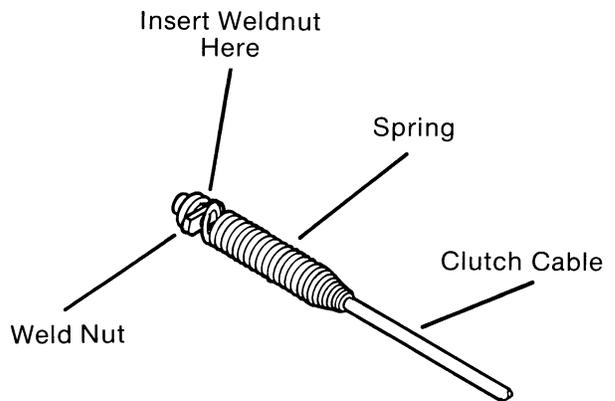

FIG. 9
- K. Insert "T" type weldnut into spring on end of clutch cable assembly as shown in (Fig. 9).